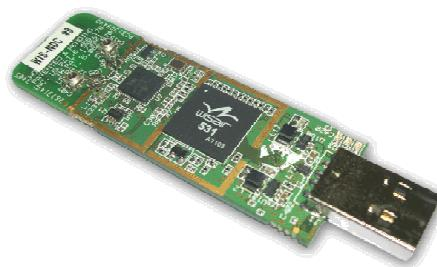

Figure 1: USB Dongle
- § USB Dongle—A USB PC dongle, shown below in **Figure 1: USB Dongle**.